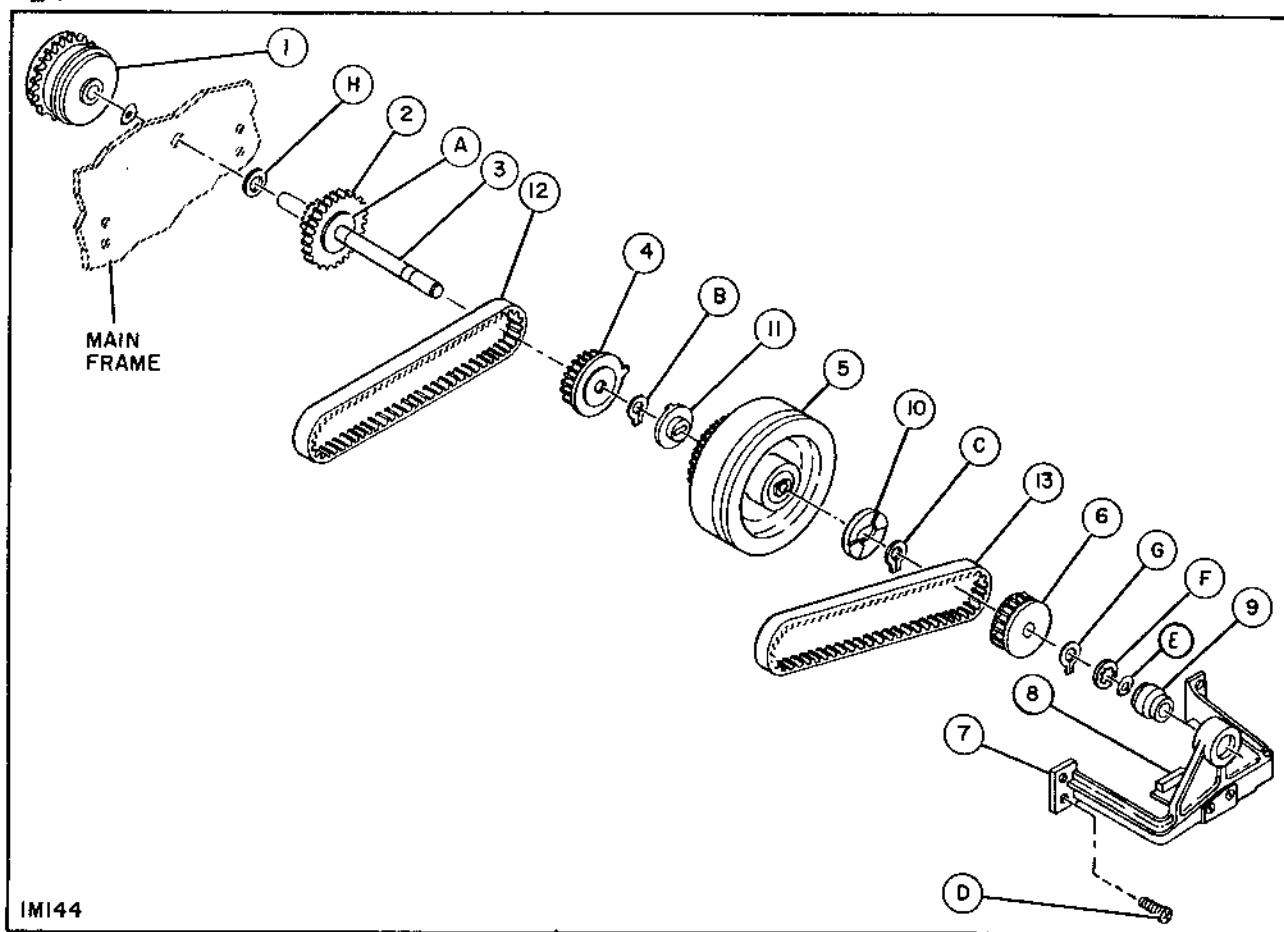

Figure 26
2. Remove four mounting screws (D) from main shaft support (7). Hold down slightly on spring extending from support while removing from projector. This will prevent loosening of felt pad (8). On MI-35181A remove reel brake shoe from claw travel adjustment screw.
3. Remove reverse drive belt (13).
4. Remove rewind belt (12).
5. Remove heavy retaining ring (G) (figure 26).
6. Remove reverse pulley (6).
7. Remove thin retaining ring (C).
8. Remove fluid clutch (5).
9. To remove rewind drag clutch (4), remove retaining ring (B), slide off forward drive belt, and remove drag clutch.
10. To remove main sprocket shaft assembly, loosen setscrew in sprocket (1) and slide shaft clear of frame and lower sprocket drive belt (on back side of gear).
11. To remove shaft support bearing (9) remove retaining ring (F) in bearing recess.